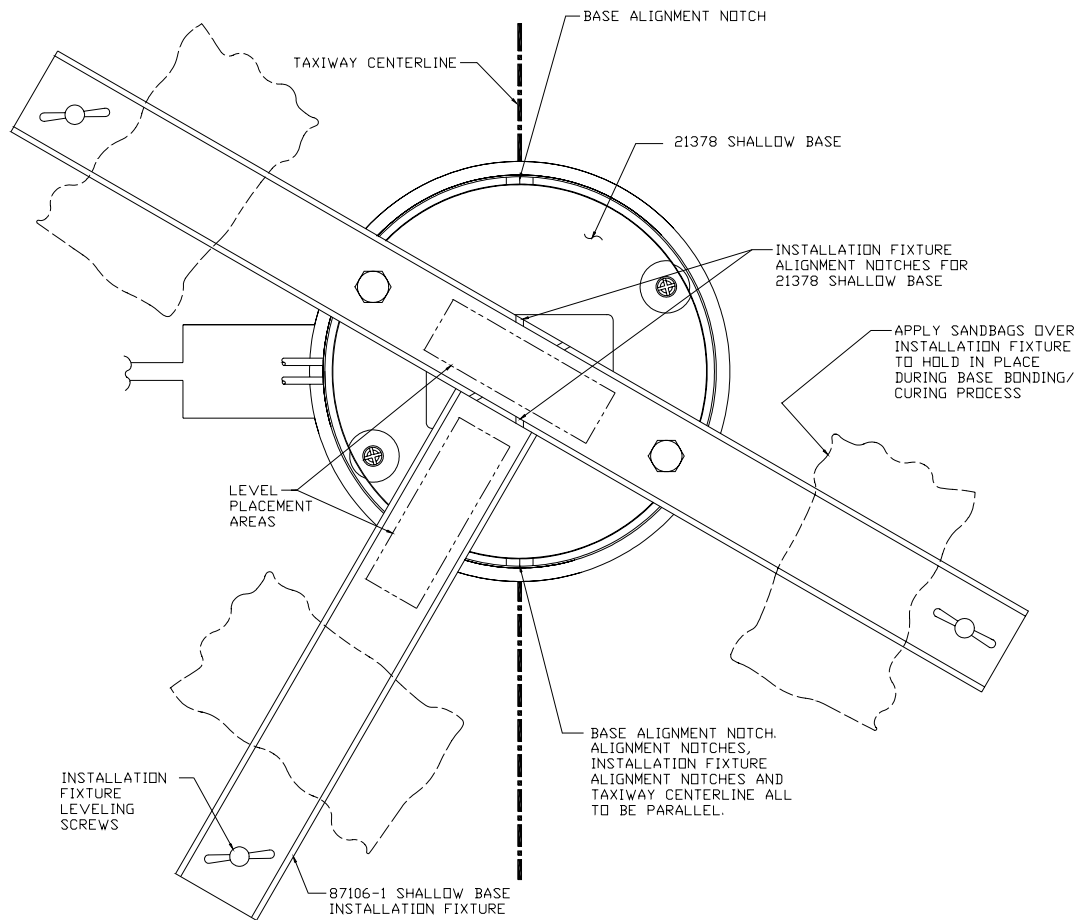

Figure 1
- 6.2.7 Level the fixture with the adjustment screws and a good quality calibrated spirit level (See Figure 1). Set the top of the light base to 2.7 to 4.3mm (.11 to .17 inches) below grade (See Figure 2) or lowest point of grade if on a sloping surface. Base on a sloping surface is to be level to itself and not with pavement.